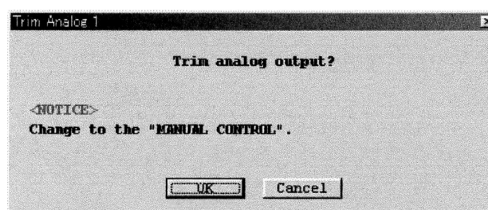

Fig.106
- ② A message box as shown in Fig. 106 appears. If you want to trim Analog Output 1, click on "OK" button.